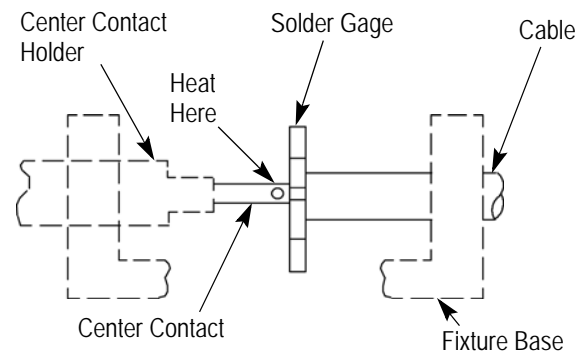

Figure 3
3. Tin the inner conductor. Place the solder gage on the inner conductor so that it is flush with the outer conductor. See Figure 3.
4. Place the center contact in the center contact holder. Heat the center contact, and slide it onto the inner conductor until it butts firmly against the solder gage. See Figure 3.